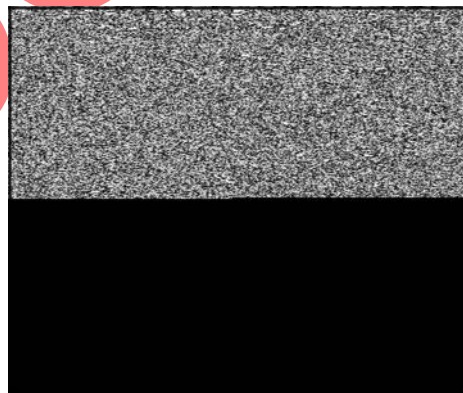
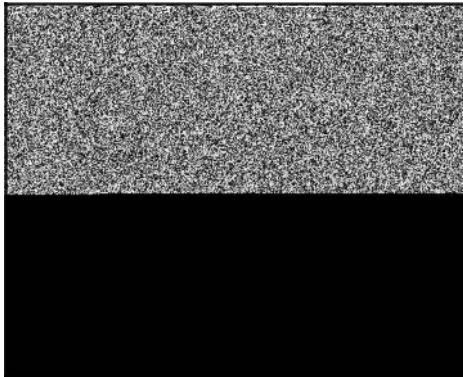

Figure 23
Figure 24
5. Connect the Choke-a-Matic® spring (if equipped) to choke lever (**A**, Figure 23, Figure 24).